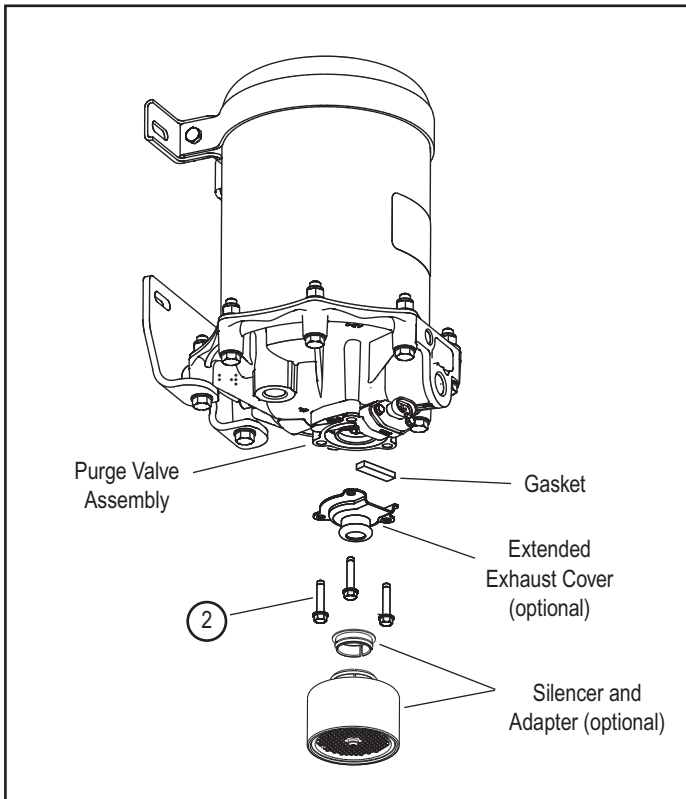

Figure 3 Air Dryer Silencer And Extended Cover Removal
2. If a silencer is installed, pull the silencer down away from the end cover to remove it. Refer to Figure 3.